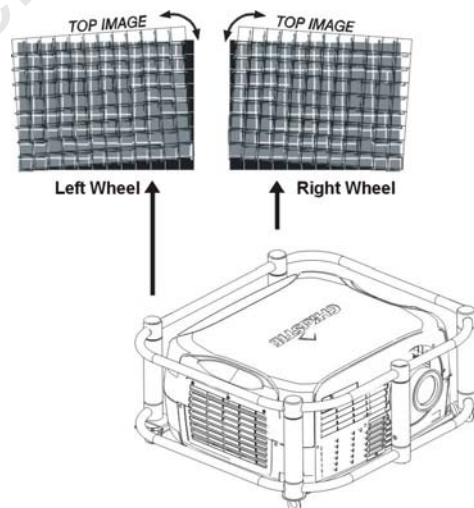

Figure 7. Directional Adjustment (Tilt)
5. For well-aligned center lines turn the two rear stacking mount wheels to move the top projector. Use a screwdriver in the holes around the rim of each adjusting wheel for better leverage and control. Turned independently, each stacking mount acts as a pivot point for the opposite edge of the display. Refer to Figure 7. For example, turn the right mount to tilt the left portion of the image and turn the left mount to tilt the right portion of the image. Turn the mounts together to raise or lower the top image, or turn the front stacker. If the center lines form an X it indicates the projectors (and images) are slightly tilted in relation to one another. Turn one mount to raise one side, and/or turn the other mount to lower the other side. Refer to Figure 7.